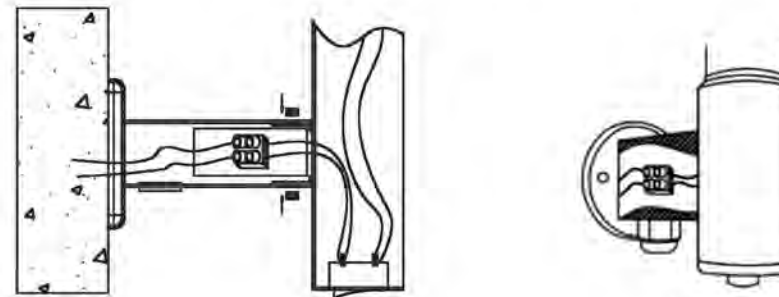

Figure. 4
2. Put the connecting plinth in the protecting cover, fasten the two parts of protective cover by the small screws and place it inside the connection box (see figure 4).